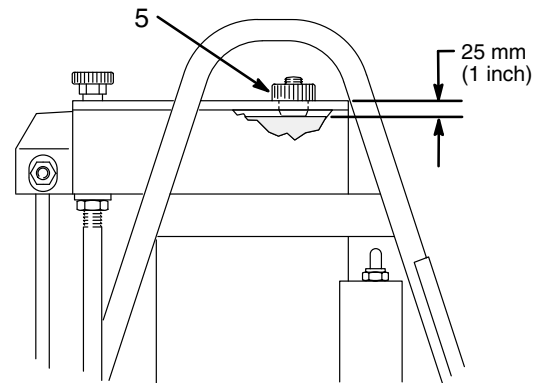

Fig. 11
See Fig. 11.
- Lubricate the screws (25) and then install and torque them to 170–200 in–lb (19–23 N.m).
- Check the hydraulic oil level and add Graco-approved oil as necessary until the level is 1 inch (25 mm) from the top of the plate. See Fig. 11.